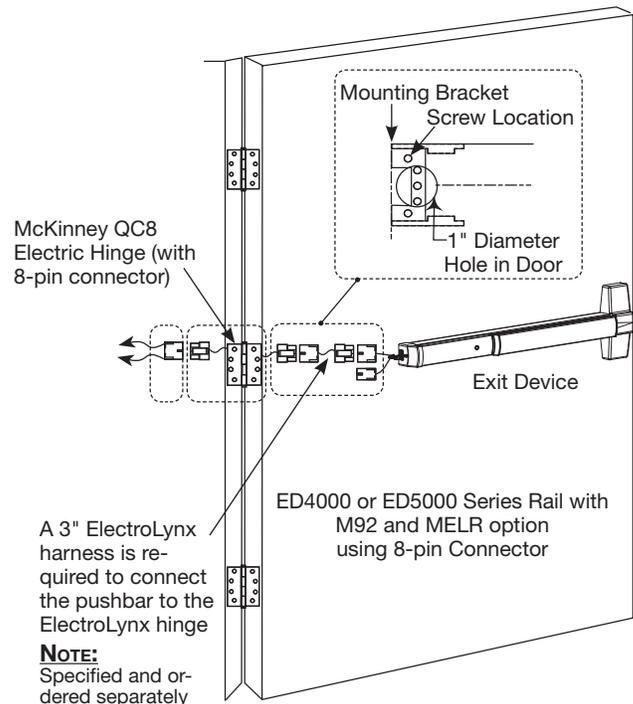

Figure 9 – Power Mode Installation
ii. Feed the 3" harness through the 1" hole in the door and secure the pushbar to the door using the mounting bracket and two (2) supplied screws (**Figure 9**).